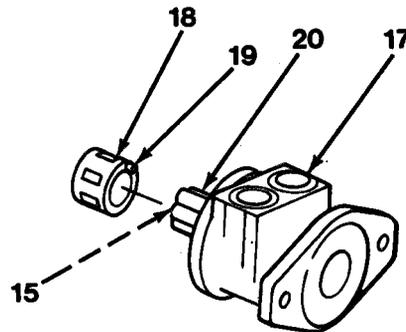

Figure 13-10
9. Install commutator (18) assembly into housing (17) commutator bore. Commutator (18) must not be cocked as it enters the bore. Drive pin (19) must be in line with coupling shaft (20, Figure 13-10) drive pin slot indicated by timing mark. Engage drive pin (19) end that protrudes from commutator into coupling shaft (20) drive pin slot rotating coupling shaft (20) if necessary. Commutator (18) will be below housing wear plate surface when correctly seated.